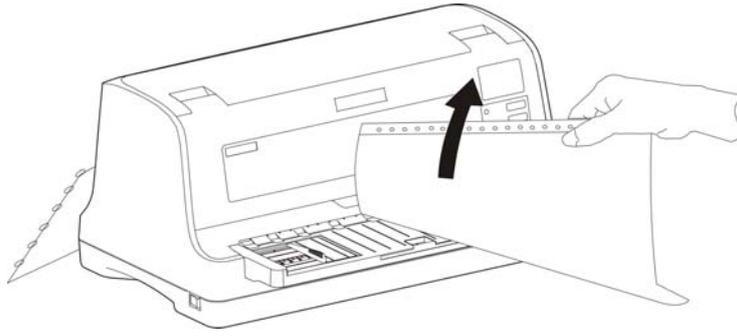

Figure 3-12 Tear continuous paper
1. The function of feed paper to tear position is turned on in default setting. After finishing printing, the printer will feed page slot to tear position. At this time, tear the paper along the printer front cover edge (as shown in Figure 3-12). Before tearing paper, if the page slot of the paper is not aimed at the printer front cover edge, please adjust the tear position (Please refer to "Adjust the Tear Position" in chapter 4).